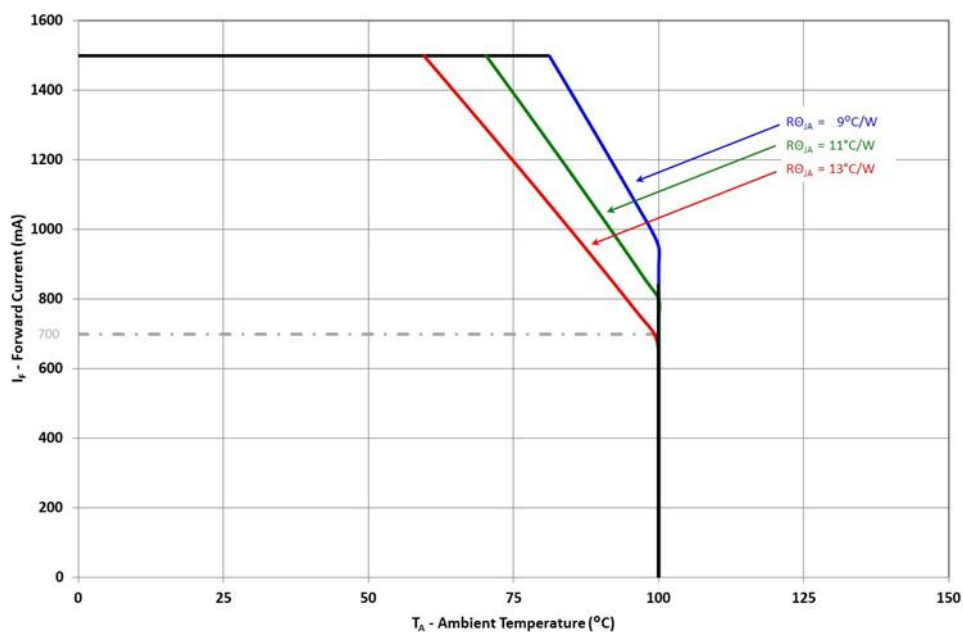

Figure 11: Maximum forward current vs. ambient temperature based on  $T_{J(MAX)} = 130^\circ\text{C}$ .
- Maximum DC forward current is determined by the overall thermal resistance and ambient temperature. Follow the curves in Figure 11 for *Current Derating*.
Notes for Figure 11: